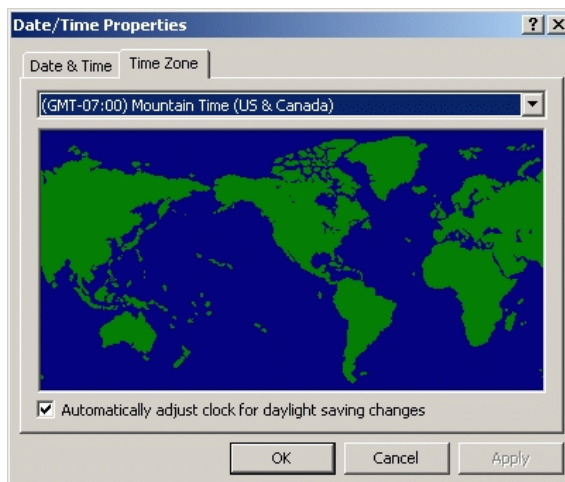

Figure 2-66 Date/Time Properties Dialog Box (Time Zone Tab)
3. Click the *Time Zone* tab. The *Date/Time Properties* dialog box displays with the *Time Zone* page open (Figure 2-66).